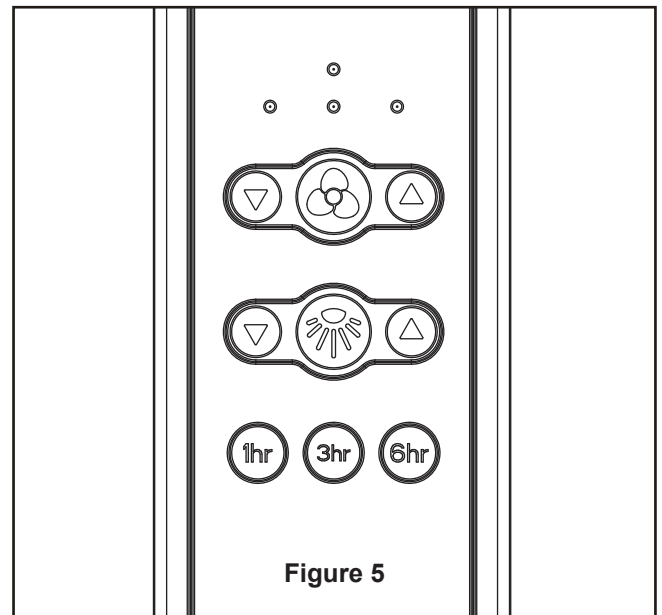

Figure 5
4. After connections have been made, the wires should be spread apart with the grounded conductor and the equipment-grounding conductor on one side of the outlet box and the ungrounded conductor on the other side of the outlet box, then turn leads upward and carefully push leads into the outlet box, with the white and green leads to one side of the box and the black leads to the other side. (Figure 5)
5. Assemble the light kit assembly to the light plate assembly using the two key slots in the light kit assembly. Replace the previously removed screw and securely tighten all three screws. (Figure 5)
5. Remote functions: (Figure 5)